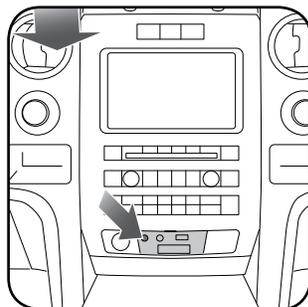

Fig. 1.2
2. At the bottom of the bezel, pry out the Aux/USB port, then remove (1) 7mm screw. (Fig. 1.2)